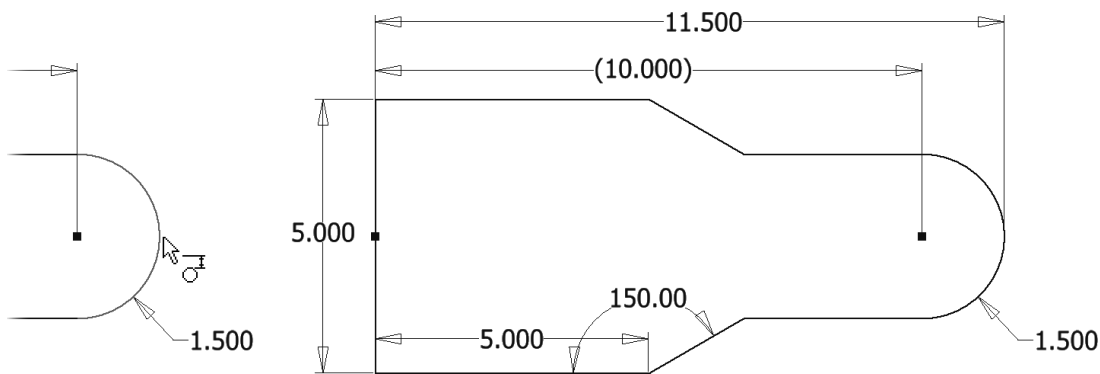

Figure 2.73
- 17** While still in Relax Mode, use General Dimension to add an overall horizontal dimension by clicking the vertical line (not an endpoint) and moving the cursor near the right tangent point of the arc until the *glyph* of a dimension with a circle appears , as shown in Figure 2.73 left.
- 19** Add a perpendicular constraint between the left vertical line and the top horizontal line. Your sketch should resemble Figure 2.73 right.